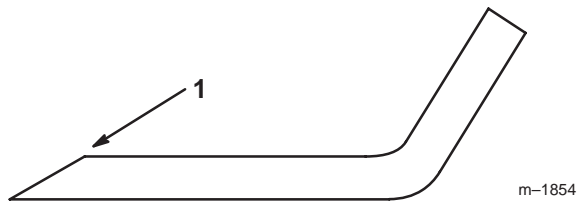

Figure 65
1. Use a file to sharpen the cutting edge at both ends of the blade (Fig. 65). Maintain the original angle. The blade retains its balance if the same amount of material is removed from both cutting edges.